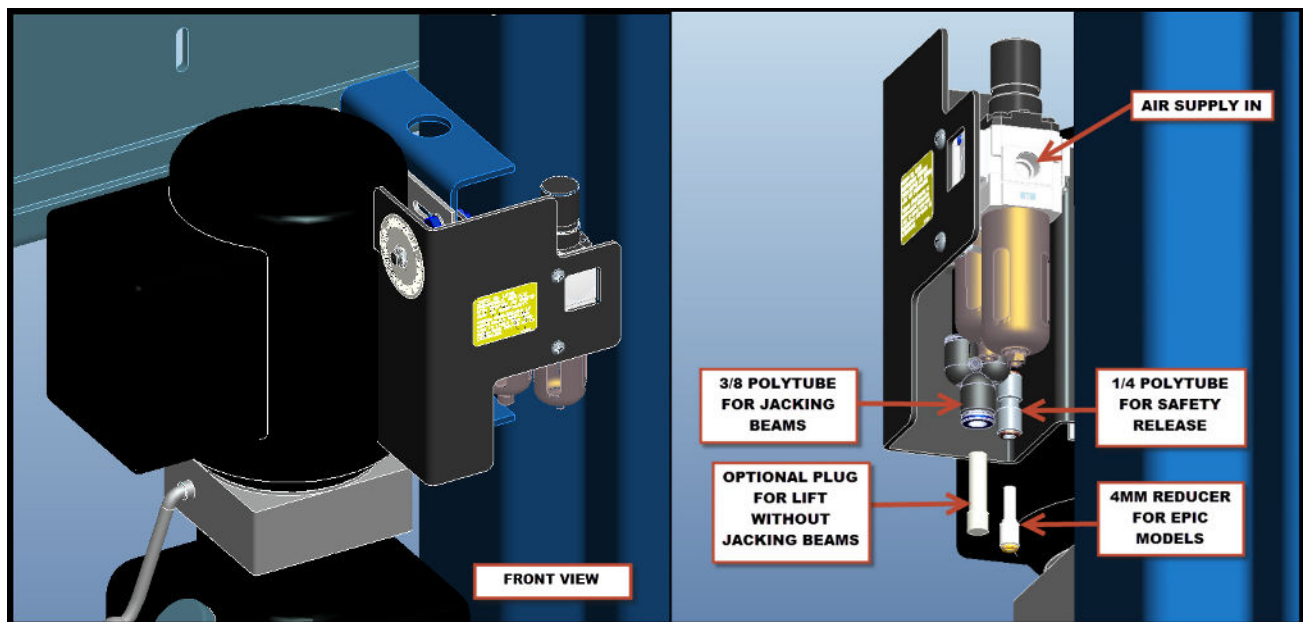

Figure 24. Air Connections
5. Connect the opposite end of the 3/8" polytube to the Air Valve and Filter assembly on the front left tower. **See Figure 24.**